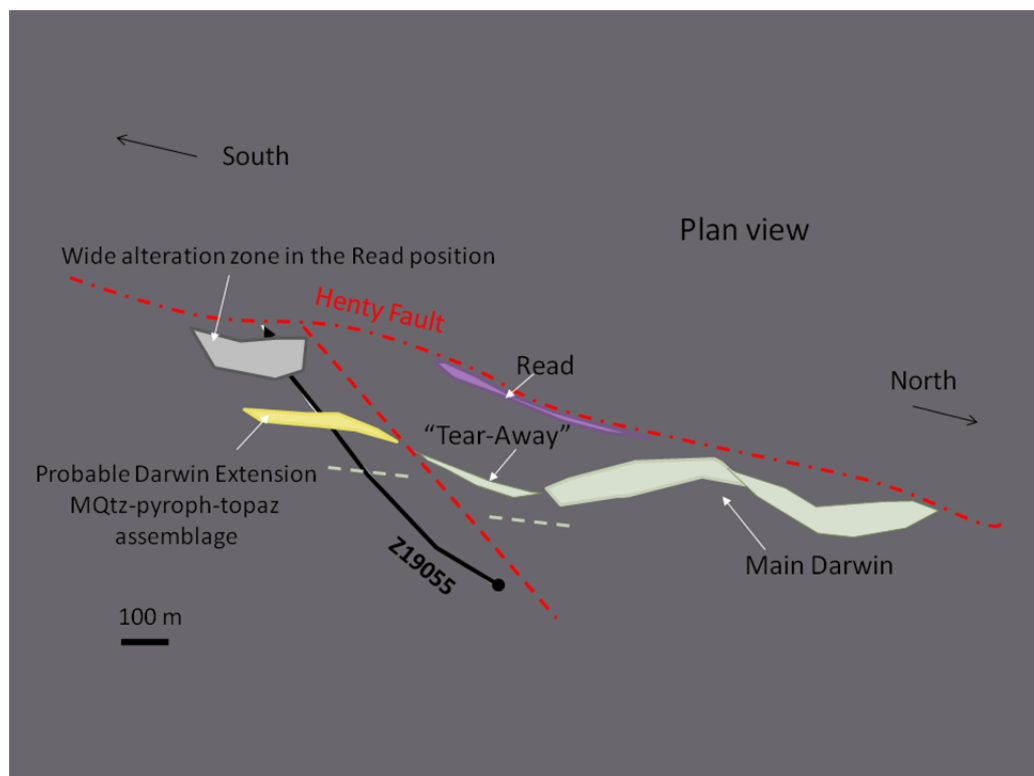

Figure 4 Plan view of underground exploration hole Z19055.
Interpretation of the recently completed Induced Polarisation (IP) survey over the tenement close to Dargues Reef has outlined a new, untested chargeability/resistivity anomaly in an area of anomalous gold in soils on the northern side of Copper Ridge. This bears a resemblance to the Dargues signature and is considered a highly prospective drill target. The location of this survey and the new anomaly is shown in figure 4 of Appendix 1.